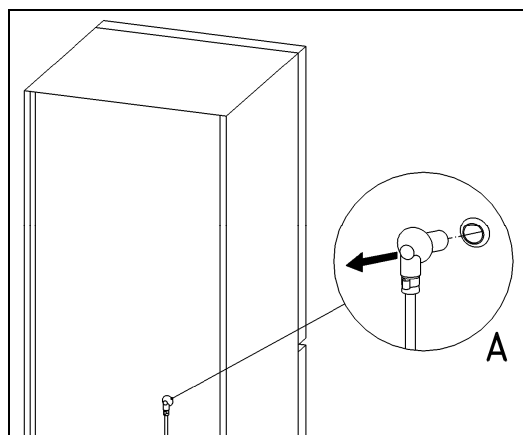

Figure 010-33: Non-Return Valve
9. Remove the hose from the rear panel, Figure 010-33, Item A.